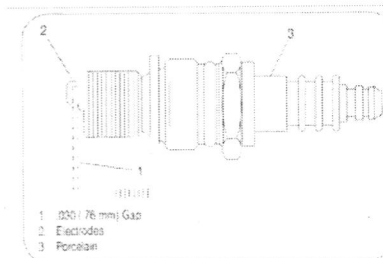

Figure26
4. Check electrode gap with a feeler gauge and set gap to .030(0.76mm)if necessary. see Figure 26